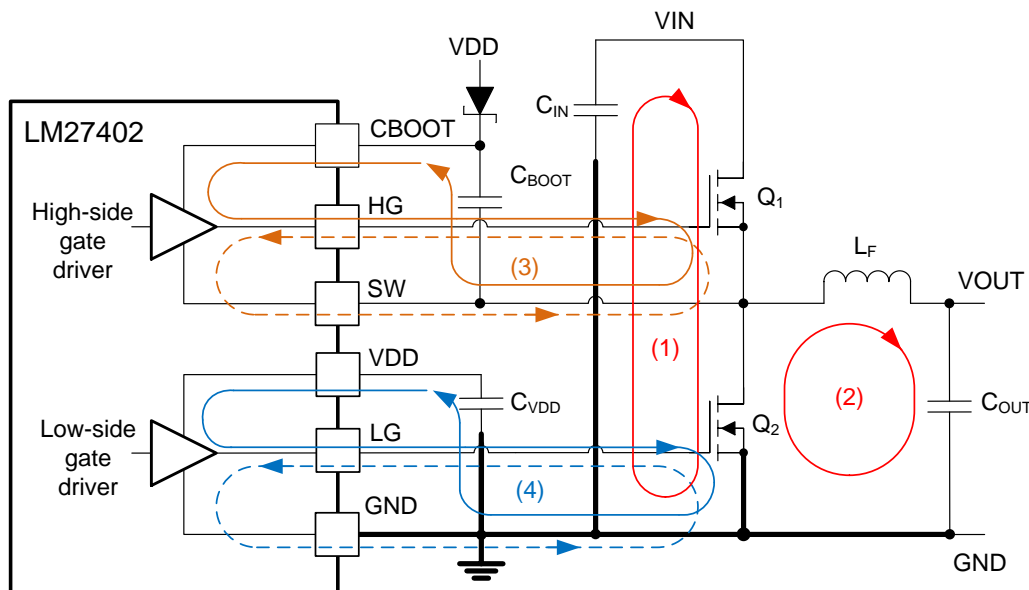

Figure 48. DC/Dc Converter Ground System With Power Stage and Gate Drive Circuit Switching Loops
Careful PCB design and layout are important in a high current, fast switching circuit (with high current and voltage slew rates) to assure appropriate device operation and design robustness. As expected, certain issues must be considered before designing a PCB layout using the LM27402. The main switching loop of the power stage is denoted by 1 in Figure 48. The buck converter topology means that particularly high di/dt current will flow in loop 1, and it becomes mandatory to reduce the parasitic inductance of this loop by minimizing its effective loop area. For loop 2 however, the di/dt through inductor L_F and capacitor C_{OUT} is naturally limited by the inductor. Keeping the area of loop 2 small is not nearly as important as that of loop 1. Also important are the gate drive loops of the low-side and high-side MOSFETs, denoted by 3 and 4, respectively, in Figure 48.
- Loop 1: The most important loop to minimize the area of is the path from the input capacitor(s) through the high- and low-side MOSFETs, and back to the capacitor(s) through the ground connection. Connect the input capacitor(s) negative terminal close to the source of the low-side MOSFET (at ground). Similarly, connect the input capacitor(s) positive terminal close to the drain of the high-side MOSFET (at VIN). Refer to loop 1 of Figure 48.
- Loop 2. The second important loop is the path from the low-side MOSFET through inductor and output capacitor(s), and back to source of the low-side MOSFET through ground. Connect source of the low-side MOSFET and negative terminal of the output capacitor(s) at ground as close as possible. Refer to loop 2 of Figure 48.
- 5. The SW pin connects to the switch node of the power conversion stage, and it acts as the return path for the high-side gate driver. The parasitic inductance inherent to loop 1 in Figure 48 and the output capacitance (C_{OSS}) of both power MOSFETs form a resonant circuit that induces high frequency (>100 MHz) ringing on the SW node. The voltage peak of this ringing, if not controlled, can be significantly higher than the input voltage. Ensure that the peak ringing amplitude does not exceed the absolute maximum rating limit for the SW pin. In many cases, a series resistor and capacitor snubber network connected from the SW node to GND damps the ringing and decreases the peak amplitude. Provide provisions for snubber network components in the printed circuit board layout. If testing reveals that the ringing amplitude at the SW pin is excessive, then include snubber components.
- Loop 3: high-side MOSFET, Q_1 . During the high-side MOSFET turn on, high current flows from the boot capacitor through the gate driver and high-side MOSFET, and back to negative terminal of the boot capacitor through the SW connection. Conversely, to turn off the high-side MOSFET, high current flows from gate of the high-side MOSFET through the gate driver and SW, and back to source of the high-side MOSFET through the SW trace. Refer to loop 3 of Figure 48.
- Loop 4: low-side MOSFET, Q_2 . During the low-side MOSFET turn on, high current flows from VDD decoupling capacitor through the gate driver and low-side MOSFET, and back to negative terminal of the capacitor through ground. Conversely, to turn off the low-side MOSFET, high current flows from gate of the low-side MOSFET through the gate driver and GND, and back to source of the low-side MOSFET through ground. Refer to loop 4 of Figure 48.